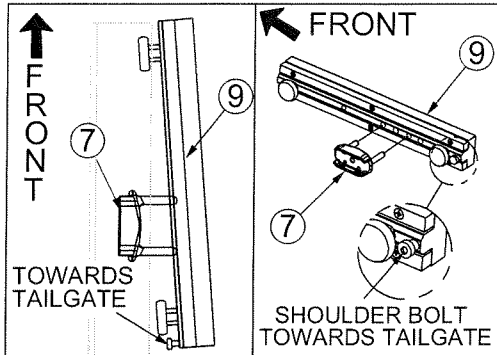
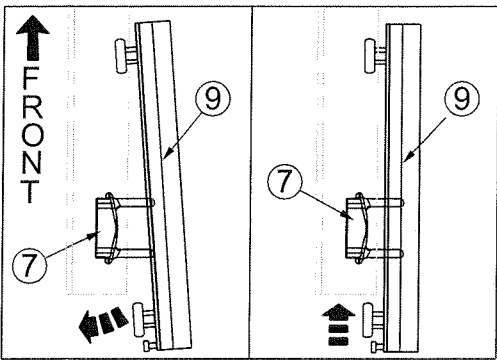

Fig. 1
Fig. 2
1. From the front of the bed (closest to the cab), place the Anchor Plate (#7) into the utili-track. Locate the shoulder Bolt on the Wheel Assembly (#9) and orient so that the shoulder bolt is towards the tailgate. Slide the rear wheel of the Wheel Assembly (#9) into the utili-track. Line up the holes in the Wheel Assembly (#9) with the Anchor Plate (#7) as shown in Fig. 1. Slide the entire assembly to the end of the utili-tracks nearest the tailgate. Slide the front wheel into the utili-track, as shown in fig. 2
- NOTE: The shoulder bolt in the Wheel Assembly (#9) must be oriented towards the tailgate as shown in Fig. 1.